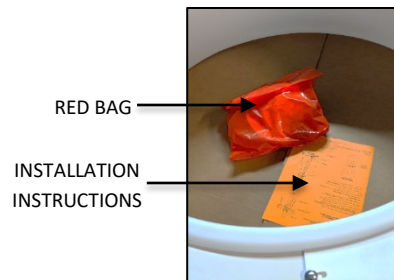

FIG. 6 RED BAG AND
3. INSTALLATION INSTRUCTIONS (shown in FIG. 6) - Please completely read the install instructions before starting installation.
4. RED BAG (shown in FIG. 6)